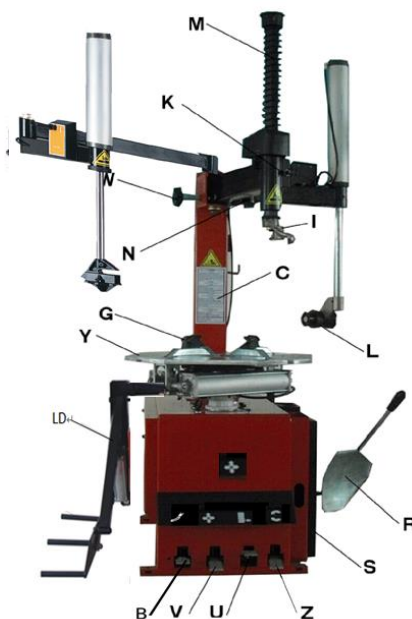

Fig 4
- 1) Tread Turntable Rotation Pedal (Z), turntable(Y) rotates in a clockwise direction; Lift Turntable Rotation Pedal (Y), turntable (Y) rotates in an anticlockwise direction
- 2) Tread bead breaker pedal (U), bead breaker shovel (R) closing toward inside; Loose bead breaking pedal (U), bead breaking shovel (R) returns to original position.
- 3) Completely tread Jaws open and close Pedal (V), four jaws on turntable(G) open. Tread again, jaws (G) close. When clamping pedal is at middle level, jaws stop Moving. Shown as Fig 4
2. Move demounting/mounting head close to edge of rim, keep a 2-3mm gap between demounting/mounting head and rim plane , operate locking handle (K, Fig 4 ) to lock vertical arm, adjust screw bolt in column to position swing arm, make sure 2-3mm gap between demounting/mounting head and rim edge side